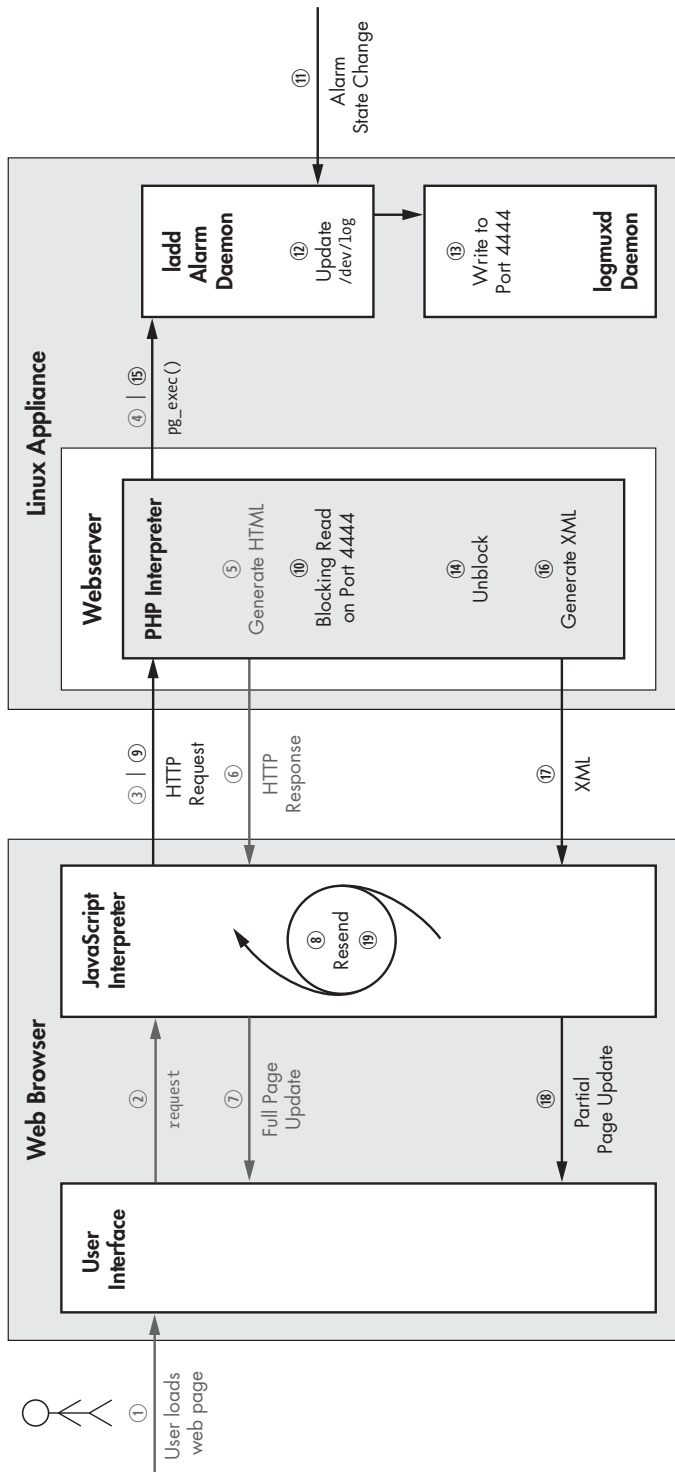

Figure 8-12: The Ajax sequence for an external event
Before we describe the details of this modified Ajax exchange, let’s review the big picture. Figure 8-12 shows the sequence for a user requesting a new web page, with the first full page update and subsequent partial page updates. In terms of timing, events ① through ⑩ occur in quick succession after the user requests the particular web page. At this point, the web page is loaded with the latest alarm state. When some alarm state changes at event ⑩, it triggers events ⑪ through ⑲ in quick succession, at which point the web page is refreshed with the new alarm state. This latter sequence repeats until the user navigates away from the web page.